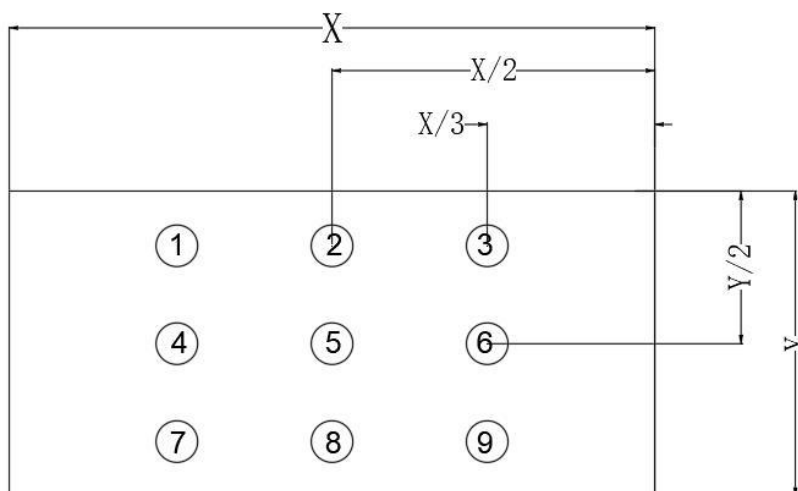

Figure 9. Uniformity Measurement Locations (9points)
4. The White luminance uniformity on LCD surface is then expressed as : $\Delta Y = \text{Minimum Luminance of 5(or 13) points} / \text{Maximum Luminance of 5(or 13) points}$. (see Figure 8 and Figure 9).
The White luminance uniformity on LCD surface is then expressed as : $\Delta Y5$ = Minimum Luminance of five points / Maximum Luminance of five points (see Figure 8) , $\Delta Y9$ = Minimum Luminance of 9 points /Maximum Luminance of 9 points (see Figure 9).